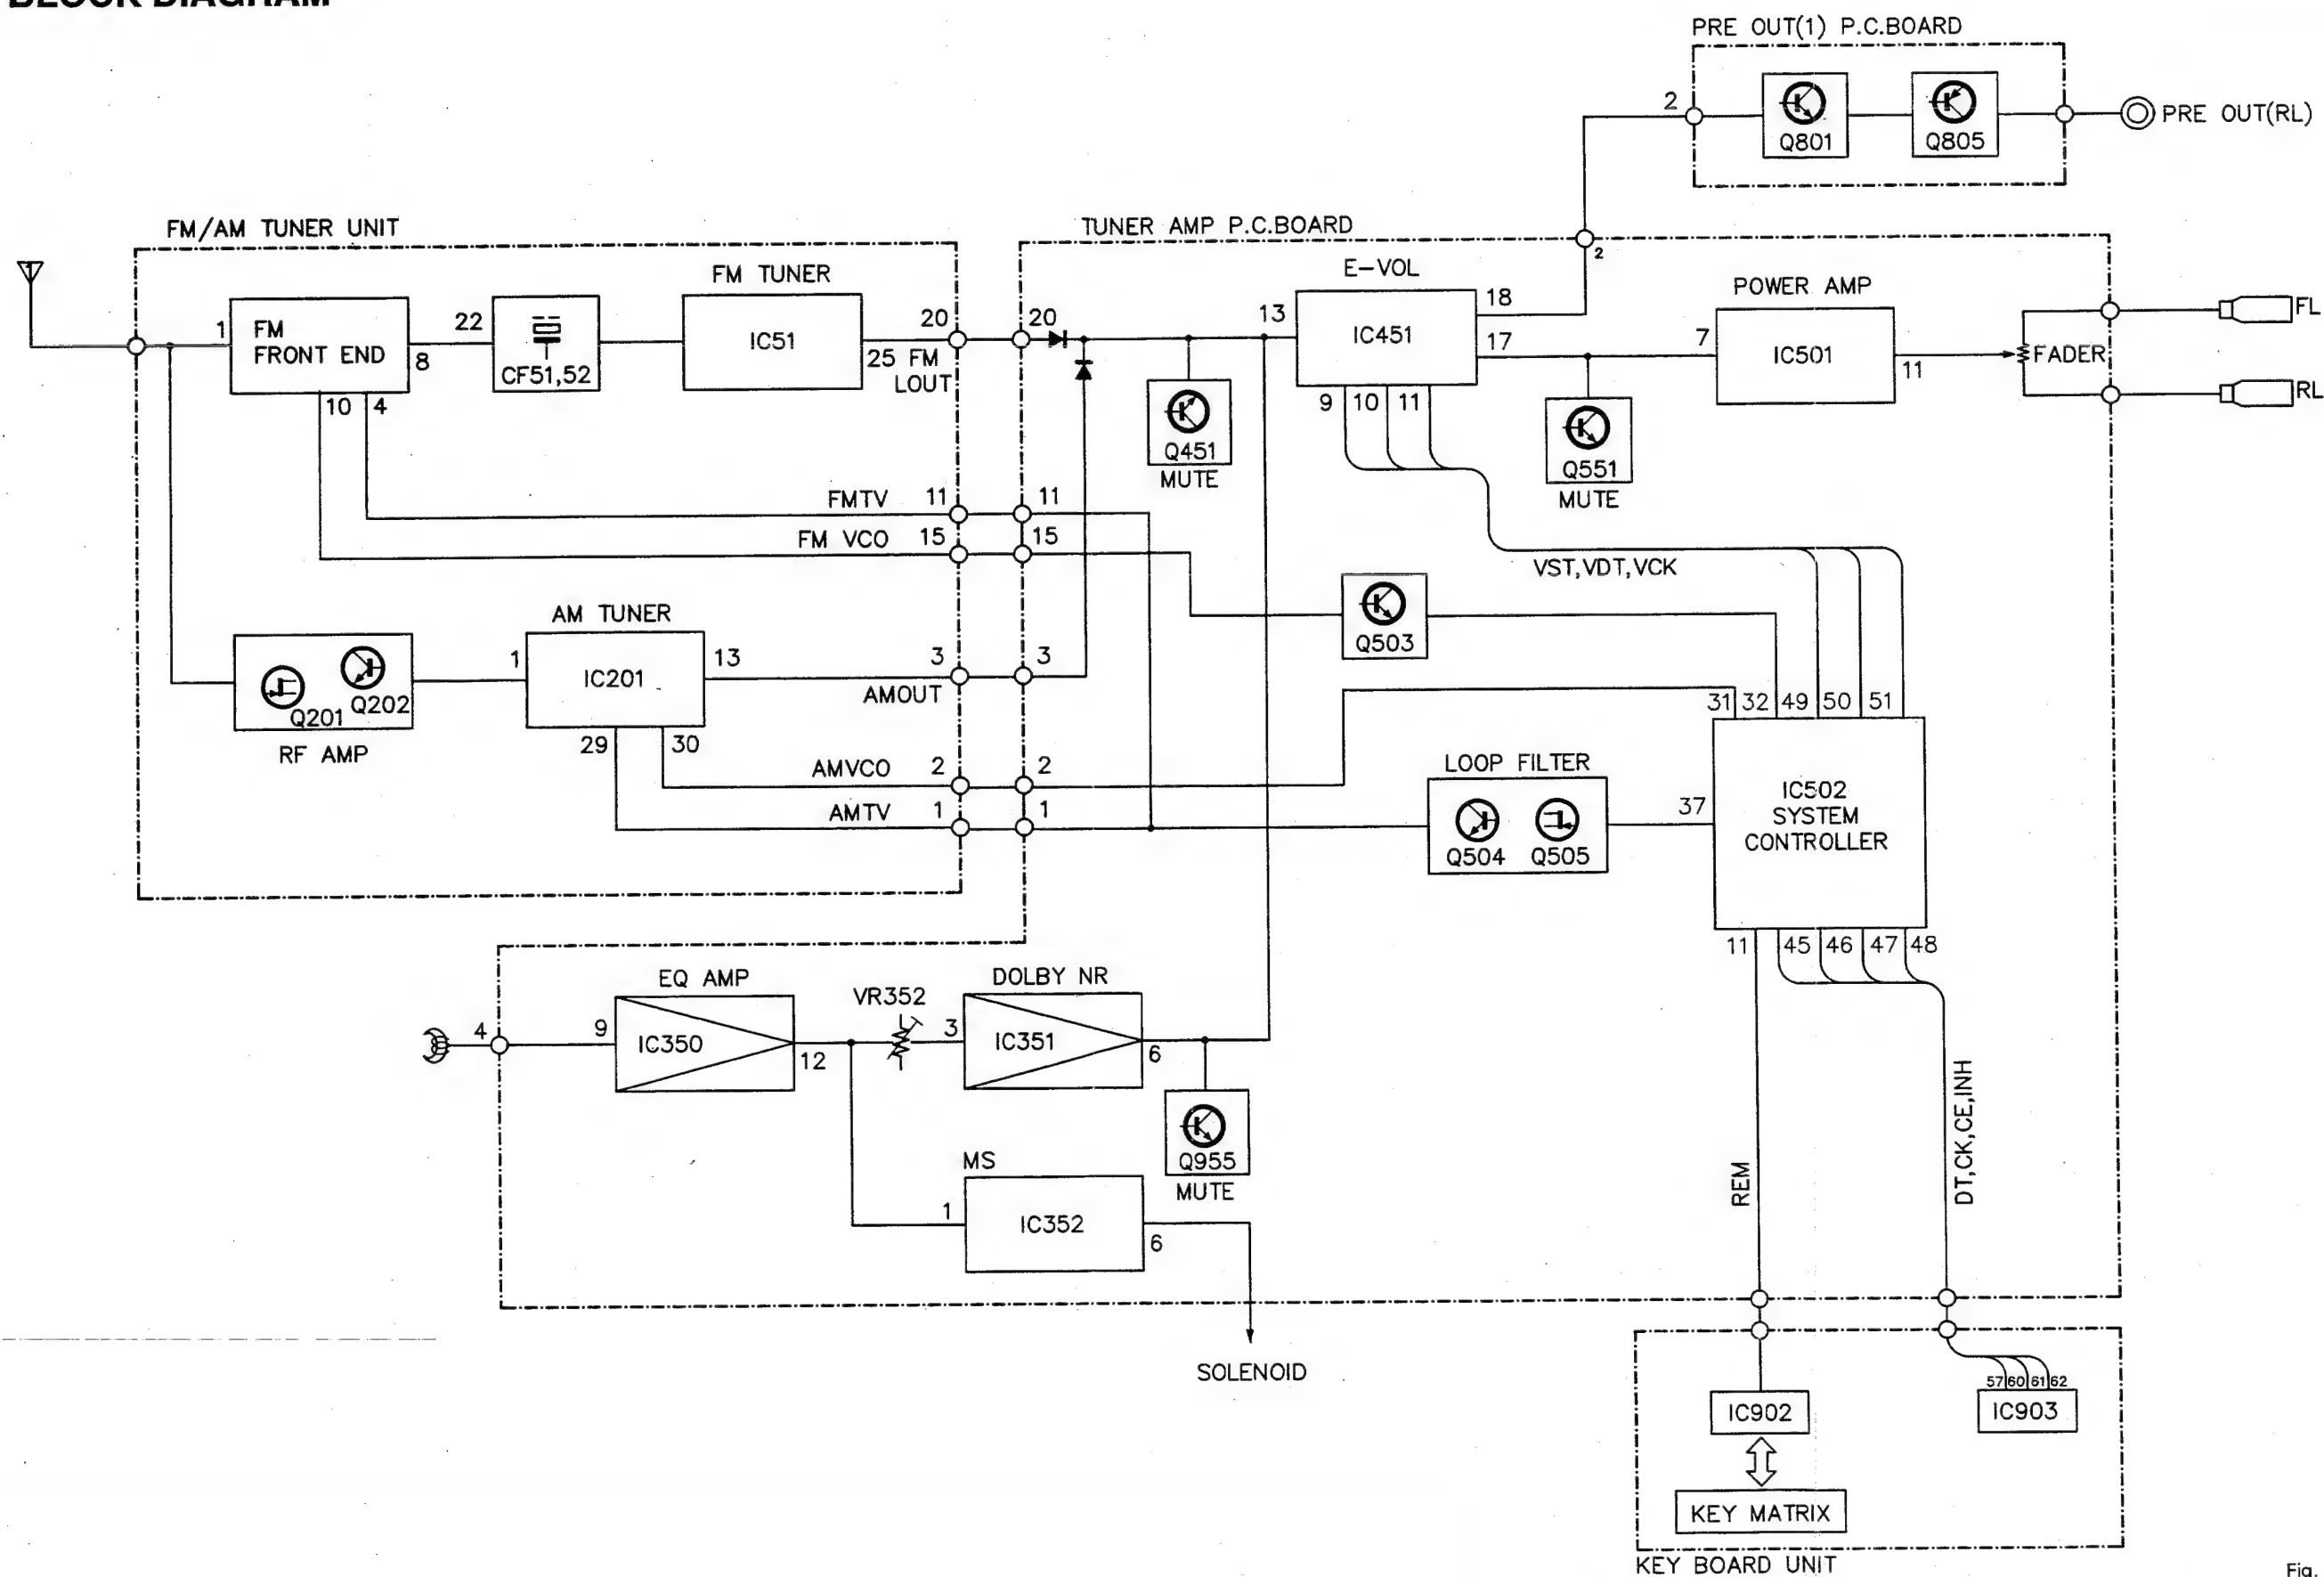

Fig. 1
This fader controls the balance between speakers ① and ②, and speakers ③, which are shown in Figure 1 on page 8. Press the (–) side of button ① to raise the volume of speakers ① and ② only; press the (+) side to raise the volume of speakers ③ only.